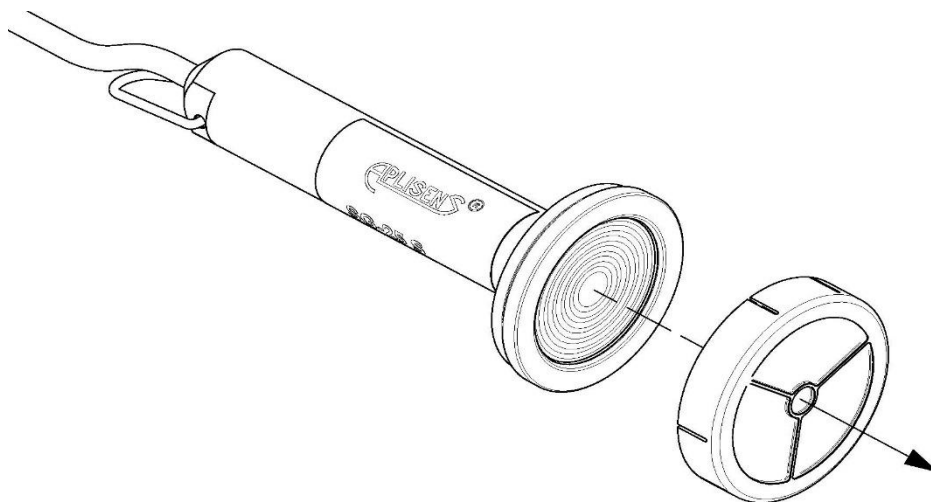

**Figure 1.** Mounting brackets for probes
The probe can be hung on the power cable, e.g. by using from the Aplisens SG cable hanger (item 1 in fig. 1). In the event of frequent removal of the probe or when there is a risk of catching on protruding elements during pulling up, it is recommended to hang the probe on a steel cord using the carrying eye (item 2 in Fig. 1.). The probes are immersed in the medium to be measured. A special cable extends above the level of the medium and can be connected directly to probe or to a junction box. If the probe is to be placed in the current or in an area of turbulence, it should be installed in a protective tube.